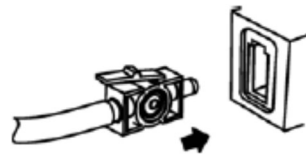

Figure 1
1. The sample cell of the sampling kit must be inserted into the sample cell receptacle of the LoFlo CO2 Module as shown in Figure 1. A "click" will be heard when the sample cell is properly inserted.